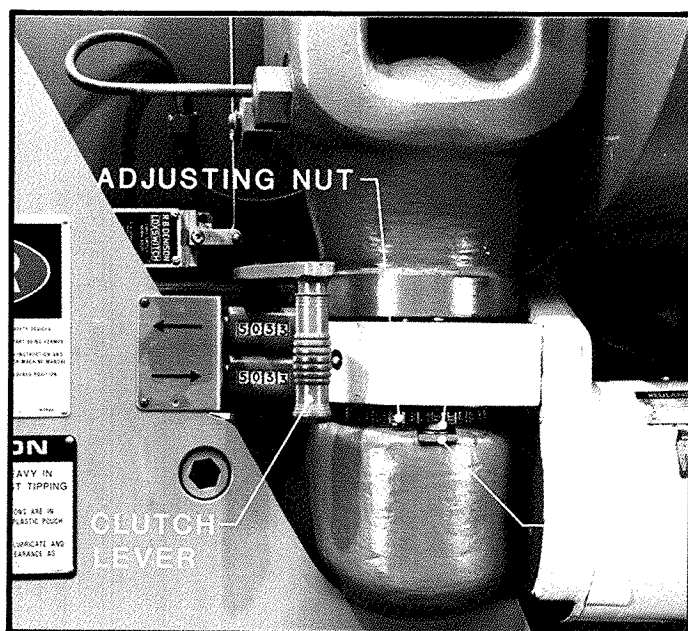

FIGURE 68
4. Loosen lock screw and pry lock plate away from adjusting nut. See Figure 68.